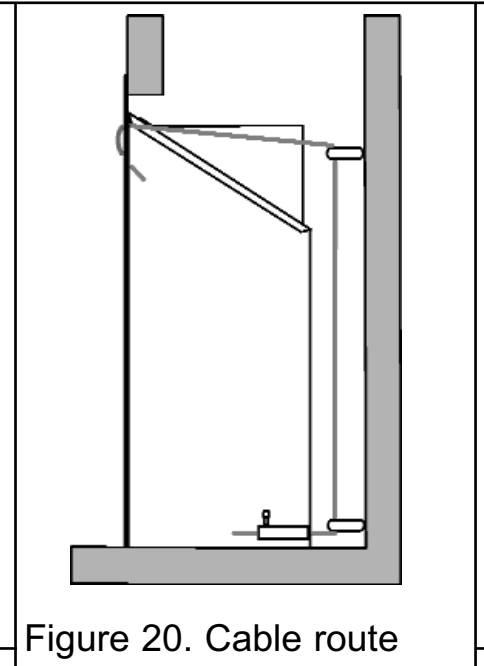

Figure 20. Cable route
6. Thread the cables through the eyebolts. Return the cables through the holes near the bottom of the convection box back panel (See figure 20).